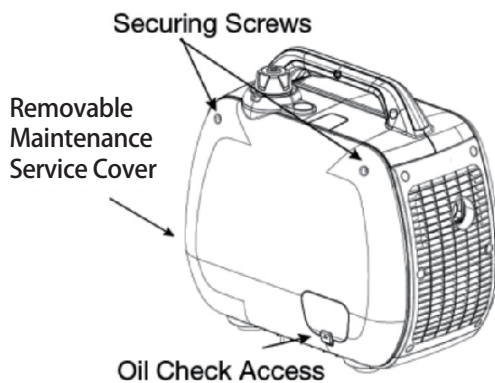

Fig. 13A
1. Loosen the cover screw and remove the maintenance cover. (Fig. 13A)